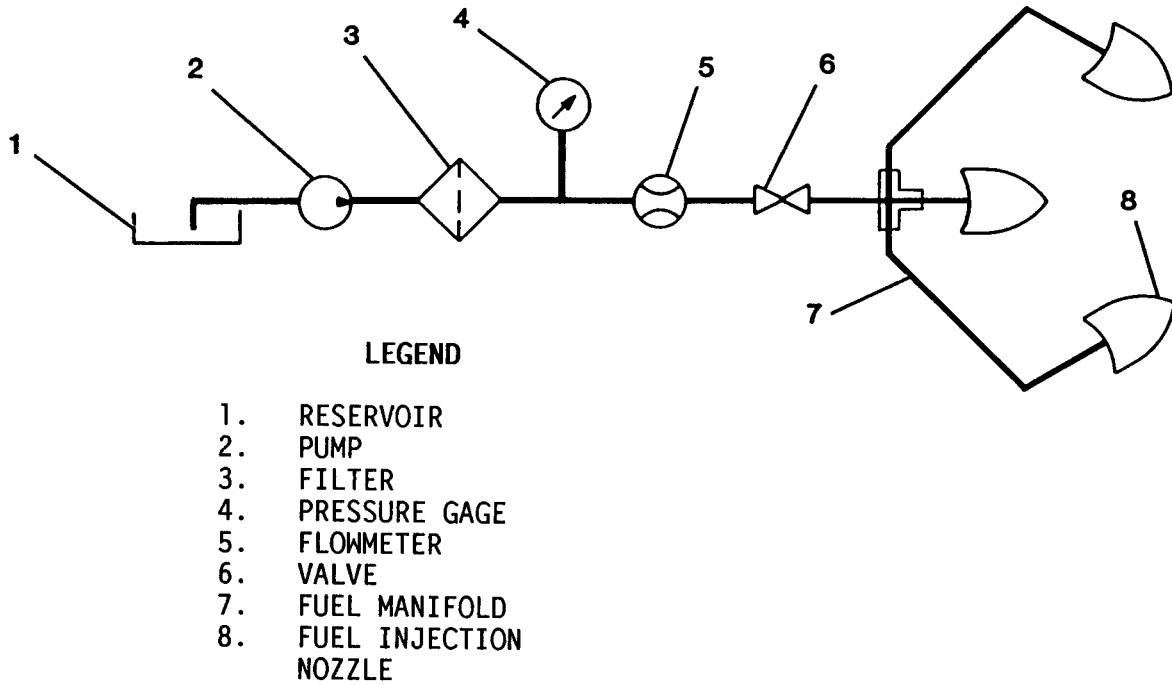
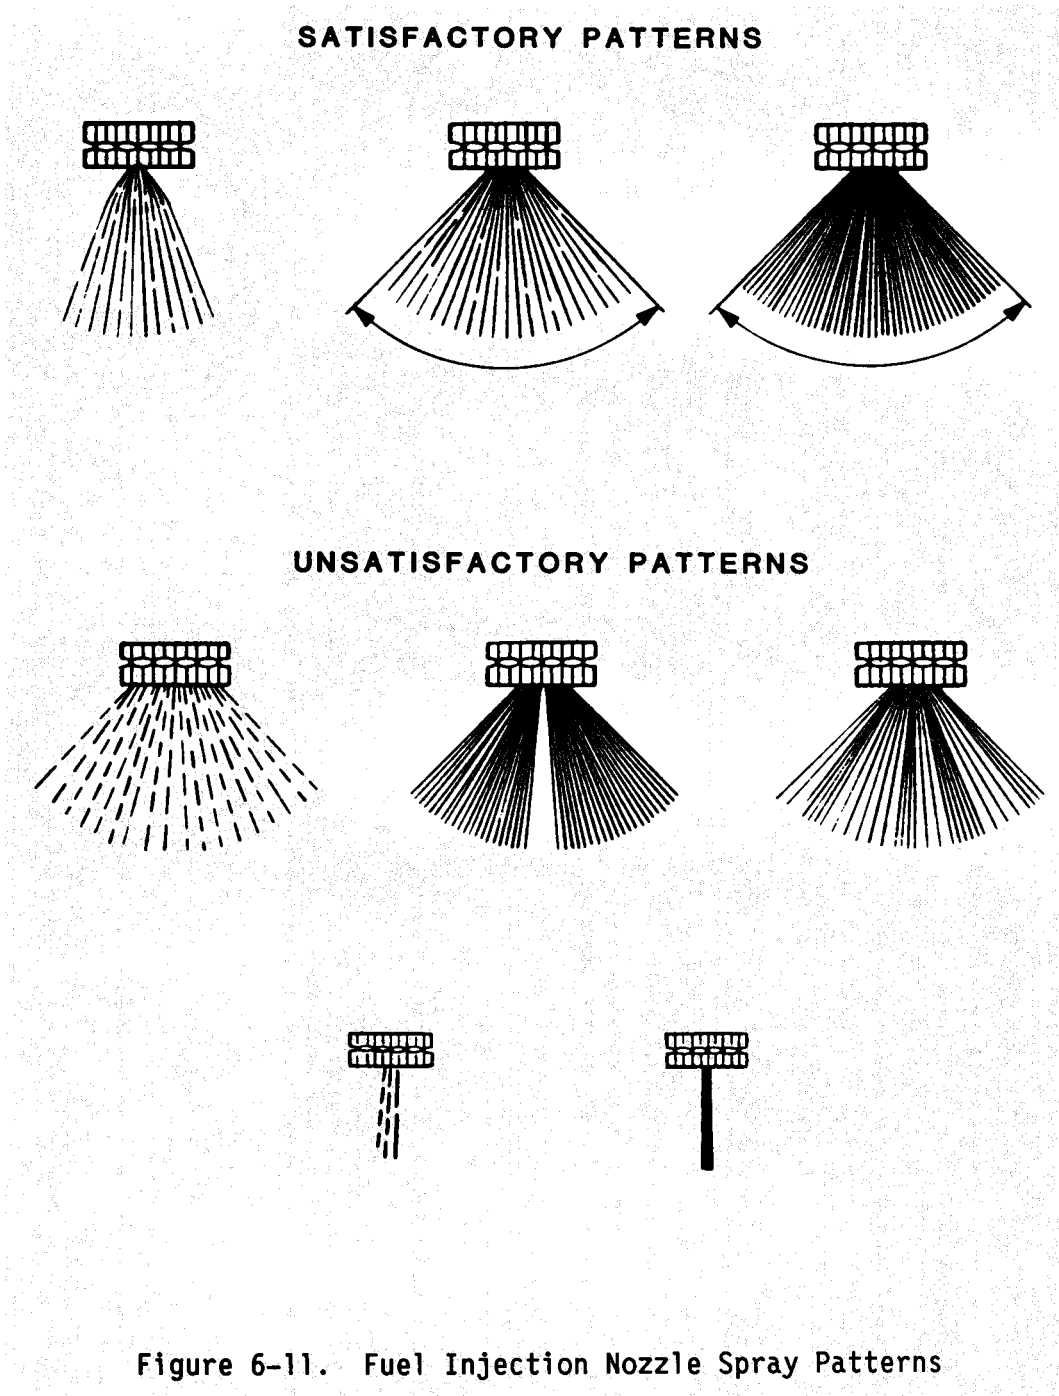

Figure 6-10. Fuel Injection Nozzle Test Setup
Figure 6-11. Fuel Injection Nozzle Spray Patterns
(1) Install fuel manifold in test setup similar to one shown in figure 6-10. Test setup must be capable of providing fluid at 190-210 psi (1.3-1.5 Mpa) with a flow rate of 20-22 pounds per hour (9.1-10 kg/h). Test fluid shall conform to MIL-C-7024, type II, and shall be kept at 76-84°F (24.4-28.8°C).
(2) Start test setup and fully open valve. Adjust as necessary to meet psi and flow rate requirements above.
(3) Observe spray patterns at each atomizer. The spray should be finely divided droplets in the form of a cone. Compare spray patterns with those shown in figure 6-11.
(4) If spray patterns do not compare favorably with satisfactory patterns shown in figure 6-11, or if fluid bubbles, runs, or spits from atomizer, replace atomizer (paragraph 4-43, TM 5-6115-612-12).